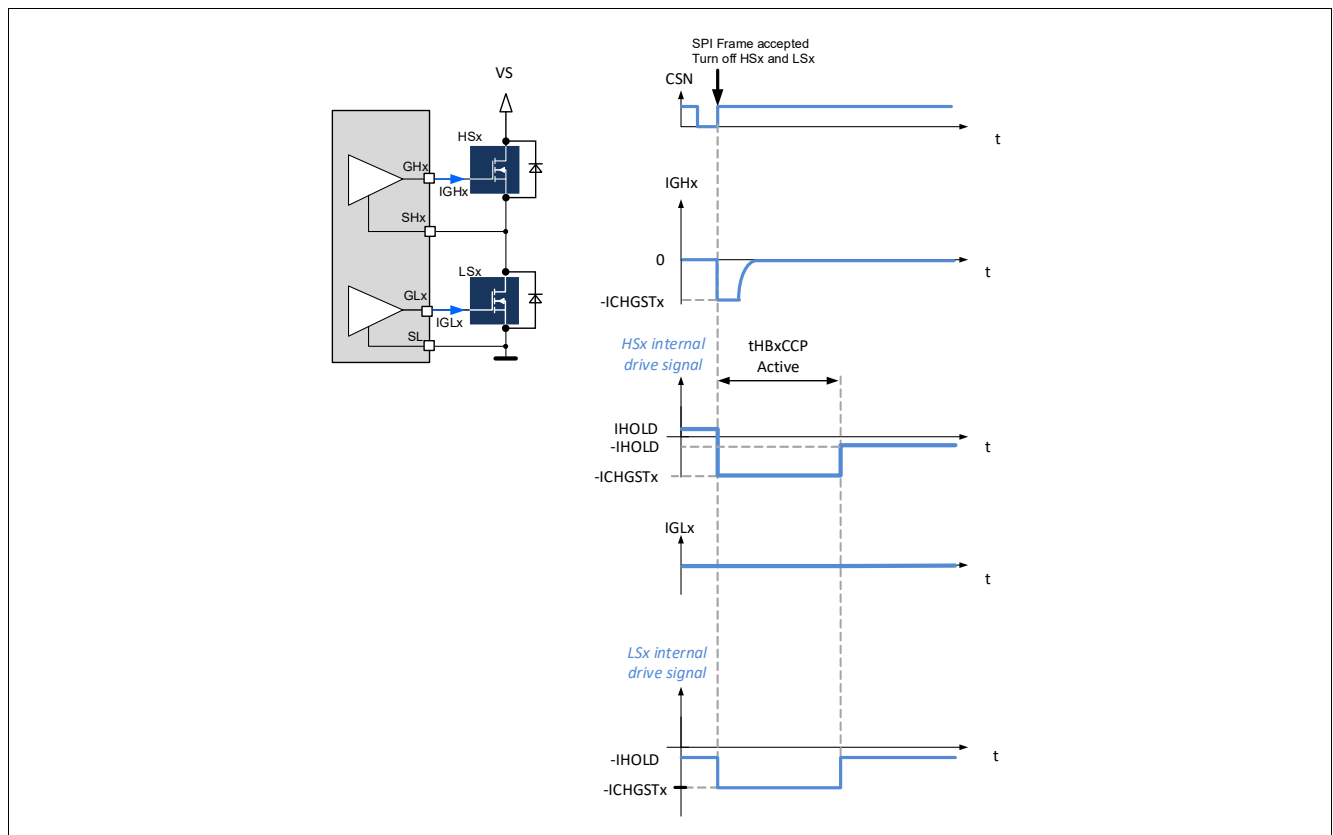

Figure 44 Turn-off of the high-side and low-side MOSFETs of a half-bridge
- The gate of HSx and LSx are discharged with the current $-ICHGSTx$ for the duration $t_{HBxCCP\ ACTIVE}$ (Figure 44).